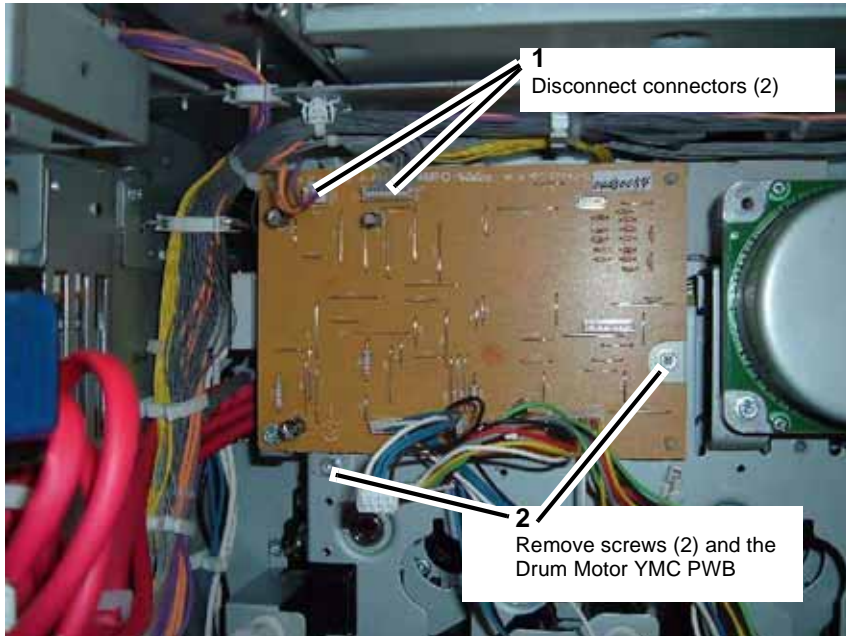

Figure 8 Removing the Drum Motor YMC PWB
9. Remove the Drum Motor YMC PWB Assembly (Figure 8).